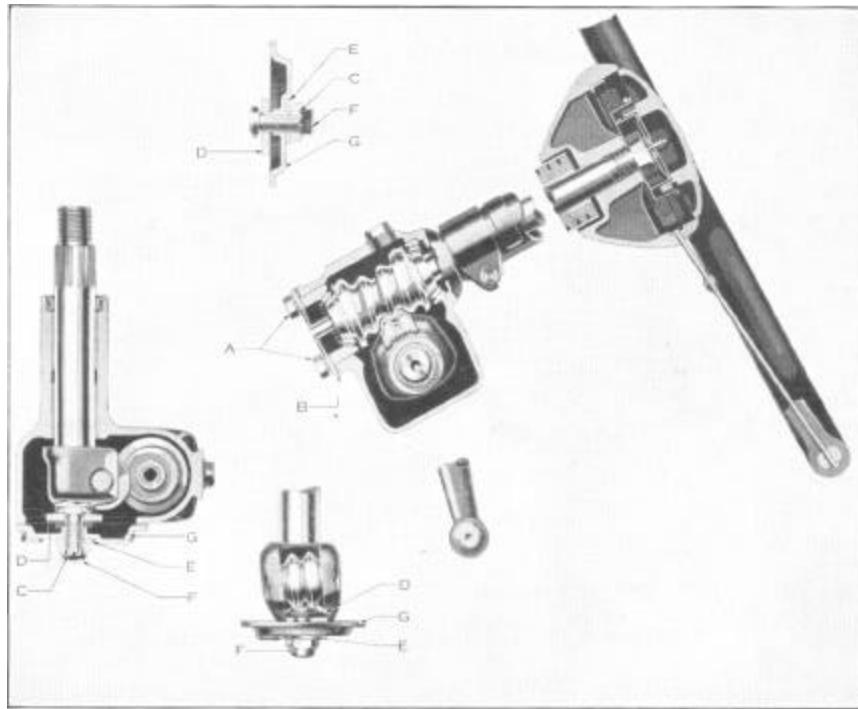

Figure 47
The steering gear, Figure 47, is of the hour-glass worm and roller tooth type, with a maximum ratio of 18.2 to 1 in the straight ahead position to provide ease of handling.
The main or worm shaft is carried on two taper roller bearings which are maintained in proper adjustment by a shim pack (B) which is properly selected when the gear is built. See Figure 47.
Worm bearing adjustment should be correct before other adjustments are made. To adjust, loosen four worm cover screws (A) (two not shown), Figure 47, $\frac{1}{8}$ ". Use a knife to separate the top shim (B), passing blade all the way around between shims, care being taken not to mutilate the remaining shims. Remove only one shim at a time between inspections to remove end play. Care should be taken not to set up stiffness in worm bearings.
The mesh between the worm and roller tooth is adjusted by a screw (C), Figure 47, extending through right side of the gear housing. A flat washer (D), assembled to the inner end of screw (C), fits into a slot in the roller tooth shaft to control the movement of the roller tooth. A lock plate (E) is used to secure the adjustment and this, in turn, is held in place by a cap (F) which screws onto the adjusting screw (C),
To adjust for closer mesh of the roller tooth and worm, remove cap (F), Figure 47, slide off lock plate (E) far enough to clear lock boss on roller shaft cover (G). Place steering wheel in mid-position or straight ahead driving position. The adjusting screw (C) is then tightened into the housing, then backed off just enough to prevent binding. Check the amount of play at the end of the ball arm. It is advisable to leave a slight amount of play at this point rather than to tighten too much.